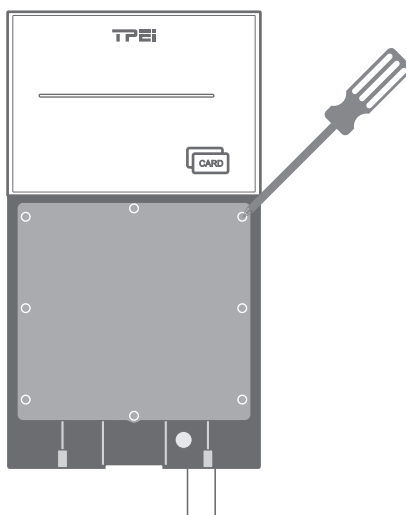

Fig. 5-11
2. Unscrew the eight screws to remove the inner cover. (See Fig. 5-11)